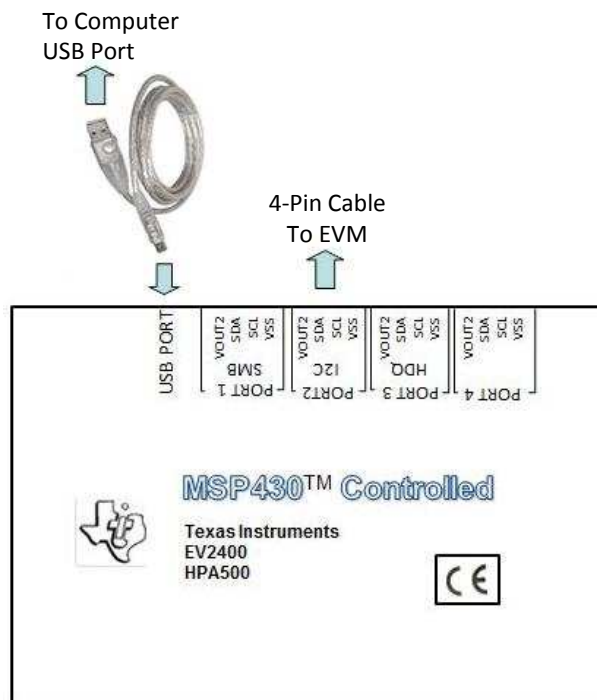

Figure 3. Connection of the EV2400 Interface Board
1. Connect the EV2400 interface board to the EVM (as shown in Figure 3).